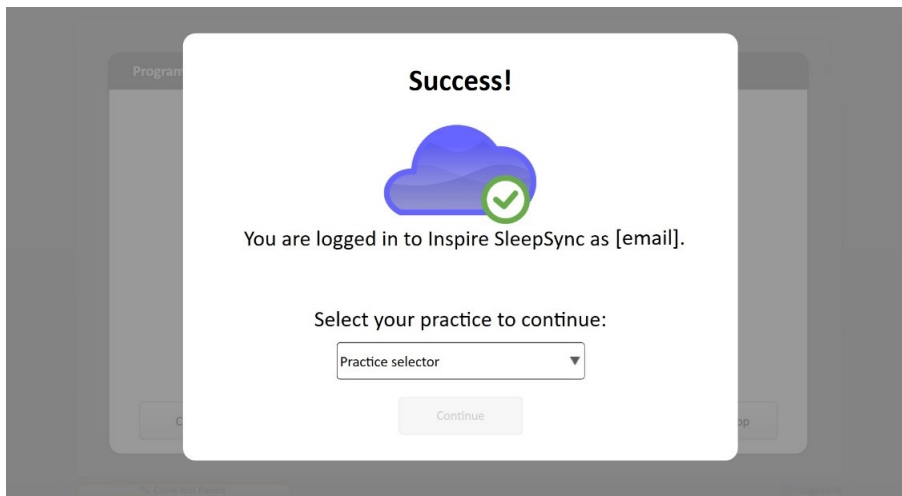

Figure 3-4. Select a Practice Screen
- g. If you belong to more than one practice, select the desired practice from the drop-down menu (Figure 3-4)(there is no practice selector if you belong to a single practice), and then select **Continue**.